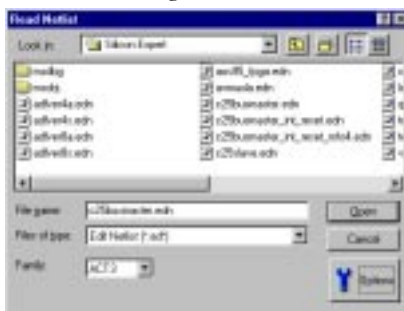

Figure 5-2. Read Netlist Dialog Box
- 2. Select Design Report.** Click OK. This invokes the Read Netlist dialog box, as shown in Figure 5-2.
3. **Select Edif Netlist (*.ed*) in the Files of Type pull down menu, as shown in Figure 5-2.**